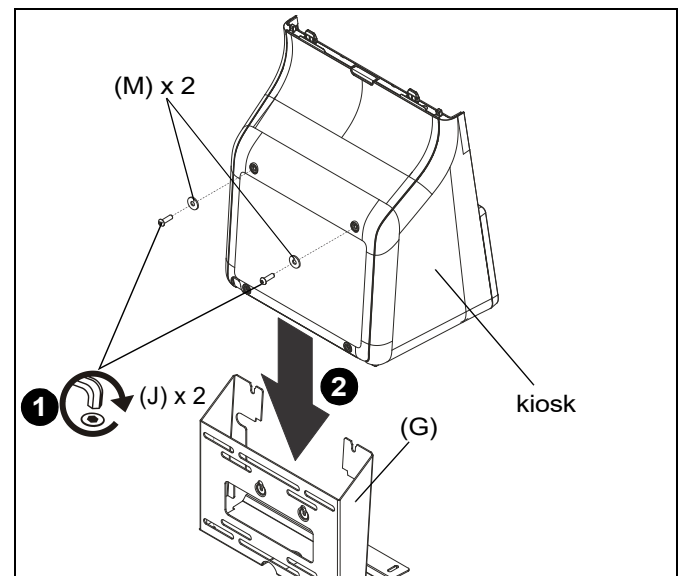

Figure 11
1. Loosely install two M6 x 10mm button head cap screws (J) through M6 washers (M) and into top holes on back of kiosk (not included). (See Figure 11)
2. Install kiosk to kiosk bracket (G) by inserting screws installed in Step 1 into top grooves on bracket. (See Figure 11)
3. Tighten screws to secure kiosk to bracket (G).